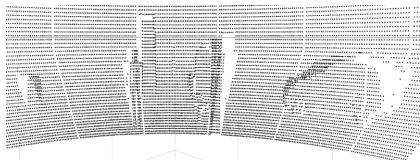
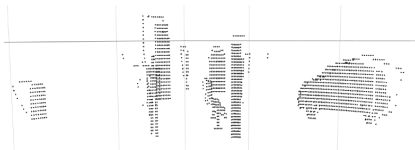

Figure 1: LiDAR Raw Point Cloud Data
Figure 2: Data After Filtering the LiDAR Scan Lines
- ▷ Figure 1 visualizes the LiDAR data for a single scene with LiDAR laser lines and Figure 2 visualizes the data after filtering out the Laser lines.